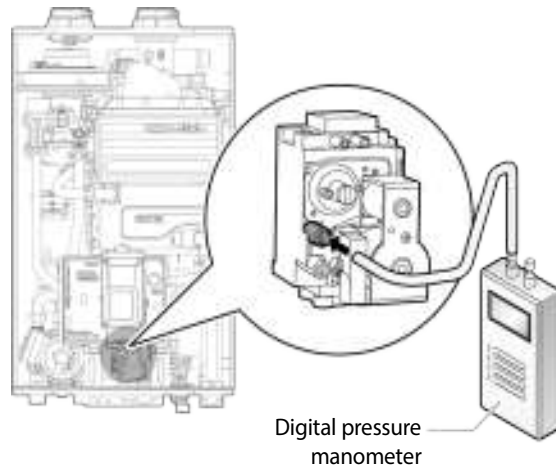

Figure 9. Checking offset Gas Pressure with Manometer
- a. Open the offset pressure port by loosening the screw two turns as shown in Figure 9.